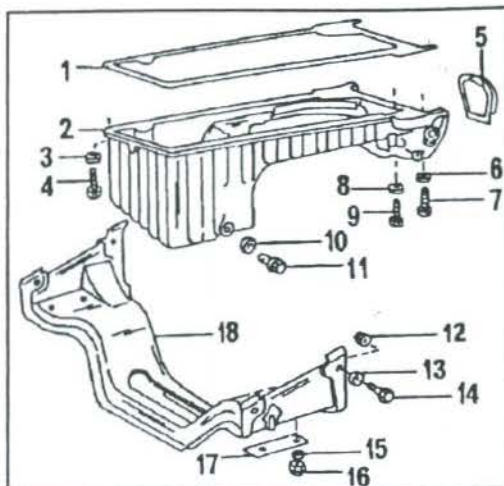

Fig. 1.79 – Details for the removal and installation of the oil sump.
- Attach a rope or chain to the brackets of the engine and lift the engine with a hoist or crane until the engine lifts enough to take the load of the rear crossmember. The jack mentioned above can also be used, but place wooden planks between jack head and power unit. Fig. 1.79 shows details of the crossmember attachment. Keep the engine in the raised position.
The installation of the oil sump is a reversal of the removal procedure. Fig. 1.79 shows the tightening torques to be observed. Finally fill the oil sump with the correct quantity of the recommended oil. Note the different filling capacities of the various engines (Page 6).